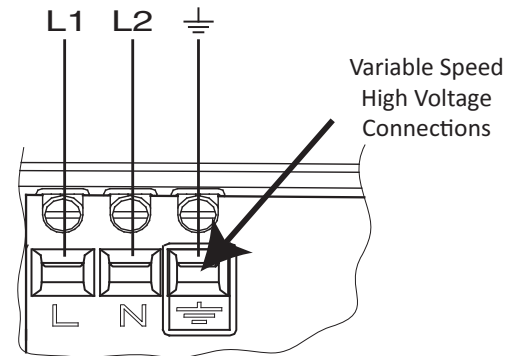

Figure 3: Variable Speed Pump High Voltage Connections
- Complete high voltage wiring to variable speed pump. Run high voltage wiring from the “L” side of the compressor contactor (see CAUTION below) to the pump terminals (refer to Figure 3). Wiring must meet all applicable code requirements, including requirements for wire protection, such as conduit. Wire size must be at least 14 AWG copper conductor.